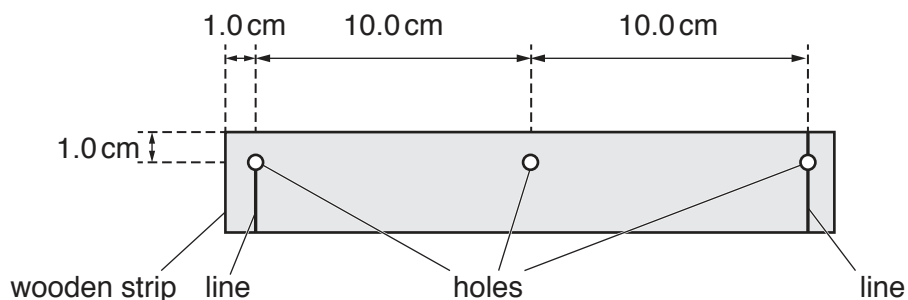

Fig. 1.1
- The wooden strip should have three holes drilled through it in the positions shown in Fig. 1.1. The diameter of the holes should be approximately 0.5 mm greater than the diameter of the nail.
Using a fine permanent marker pen, lines should be drawn on one face of the strip in the positions shown in Fig. 1.1.